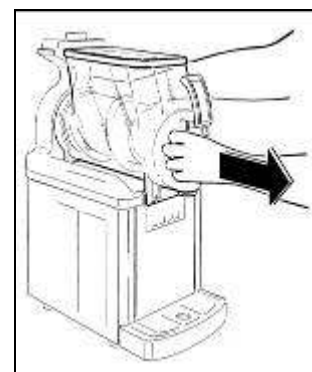

Fig. 8
- **P**ull the tank outward, as shown, to completely remove it from its seat (fig.8).